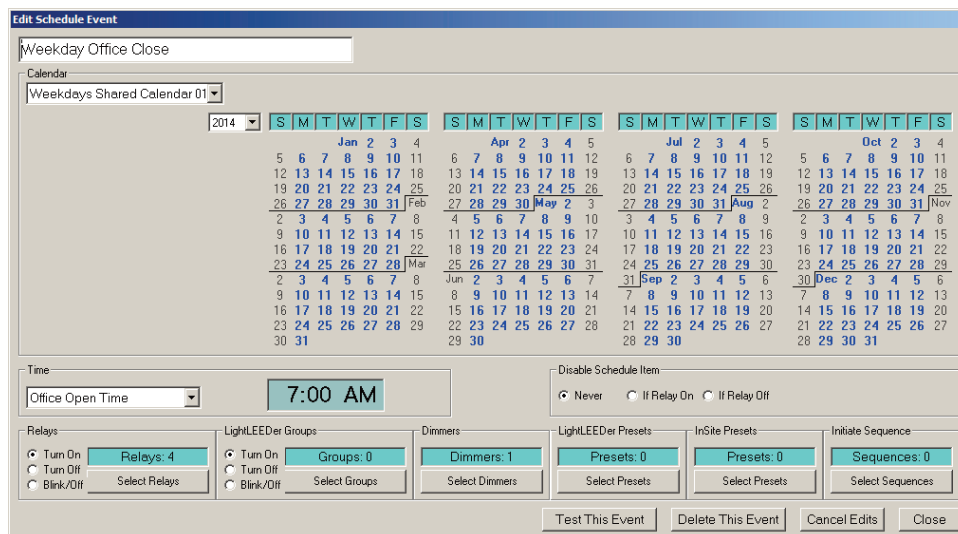

Figure 2.21 Shared Calendar
- **Shared Calendar:** From the Calendar pull-down menu select the shared calendar desired. The days will be highlighted in blue as shown in figure 2.21 and cannot be changed unless the shared calendar is changed. Note: If the Shared Calendar is changed, it will be automatically changed for this event.
2. From the Insite Schedule, in the Schedule Events area, select the desired event as shown in figure 2.21, and then press Edit.